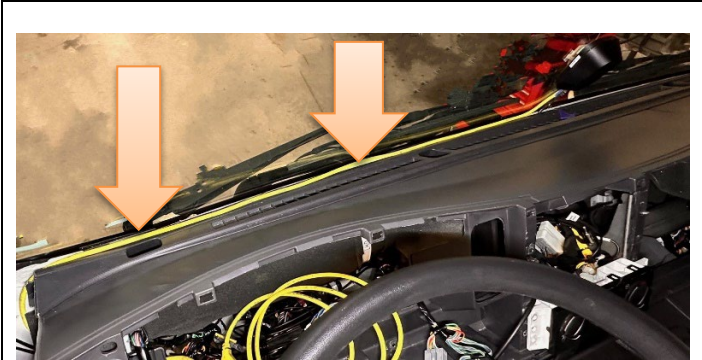

Figure 16
13. Pull back on the IP and remove the Mobileye camera cable from behind the instrument panel. (See arrows in Figure 16.)